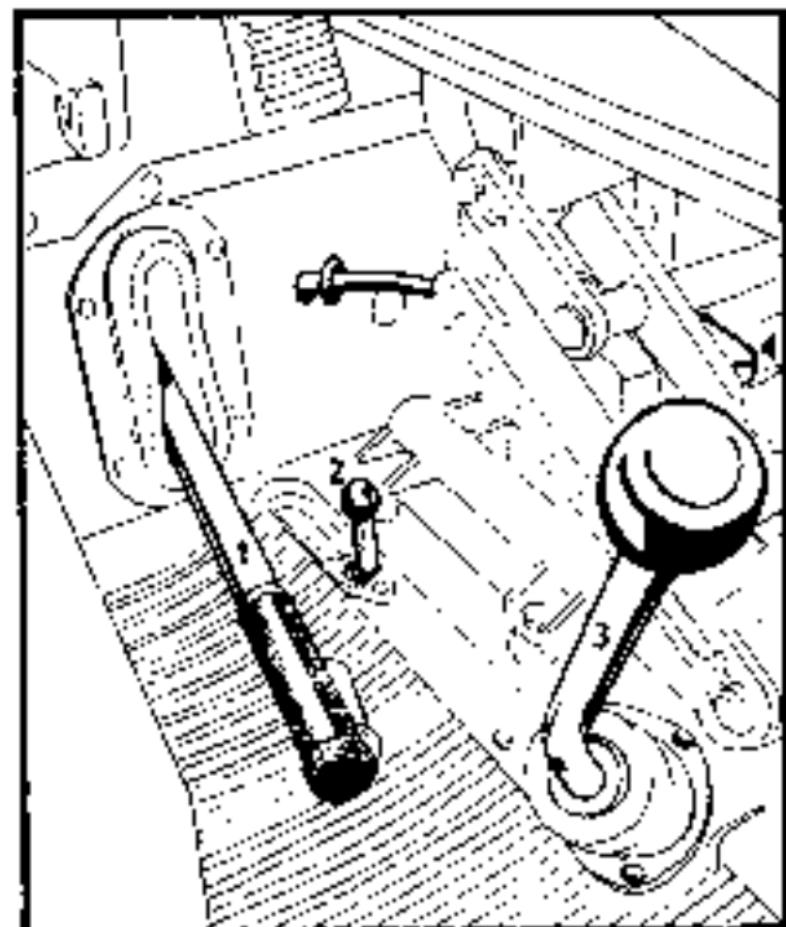
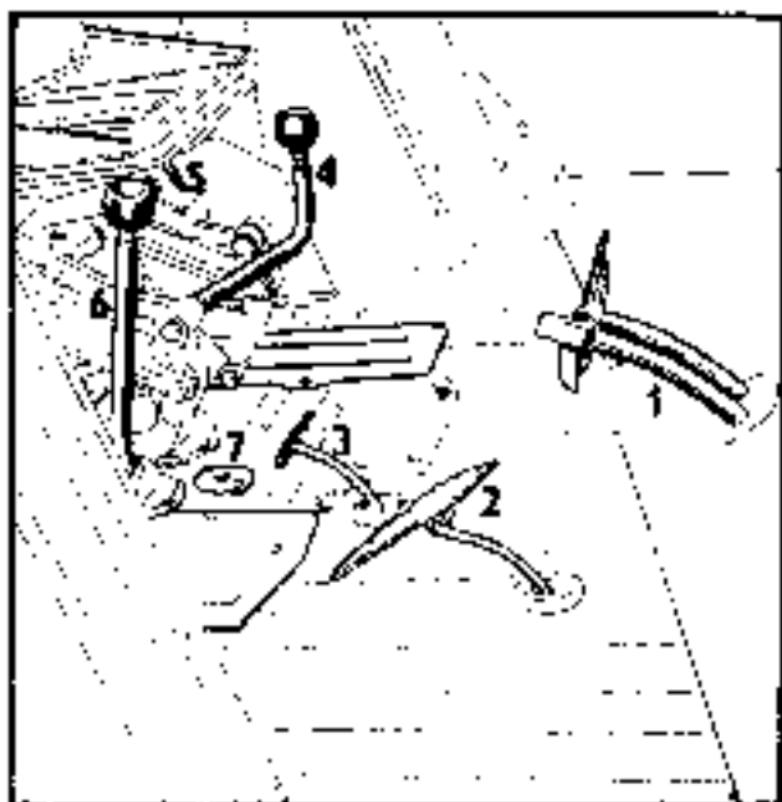

Fig. 4
Fig. 6
Shifting lever of dependent and independent PTO selection (Fig. 4/3)
- Gear shifting lever of speeds 1, 2, 3, 4 (Fig. 4/3, Fig. 6/6)
Notched brake pedals (Fig. 6/1)
Accelerator pedal (Fig. 6/2)
Rear axle differential lock pedal (Fig. 6/3)
- Road (travel), reduced speeds and reverse gear I, II, R shifting over (Fig. 6/4)
- Adjusted seat air filling valve (Fig. 6/5)
- Gearbox and main transmission housing oil filling plug is located underneath the cover on floor (Fig. 6/7) -- the plug serves as oil level indicator at the same time